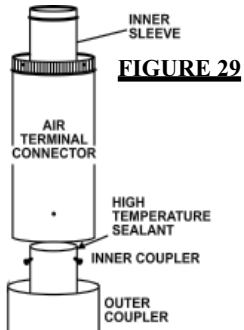

FIGURE 29
- FIGURE 29.** The air terminal must be located vertically and plumb.